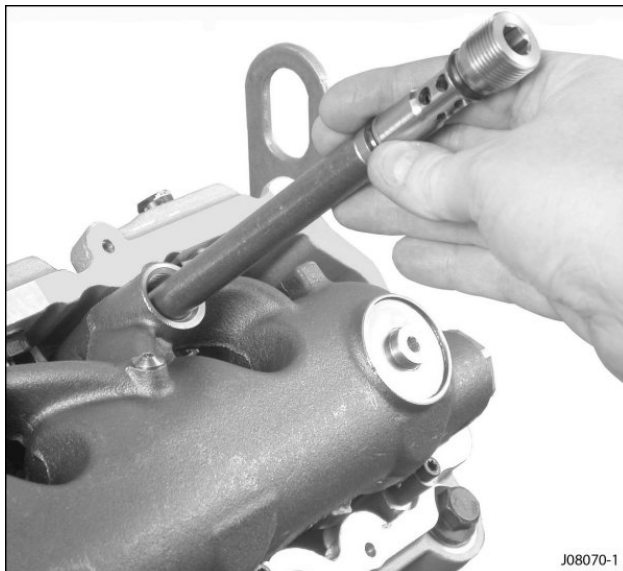

Figure 11 Removing the crankcase-to-head plug (with check valve)
Step 4 after Figure 11 has been revised.
2. Crankcase-to-head tube (used with item 1)
4. Crankcase-to-head tube (used with item 3)
8. Using the needed service tool (Figure 10), remove the crankcase-to-head tube assembly from the high-pressure oil rail (Figure 11).